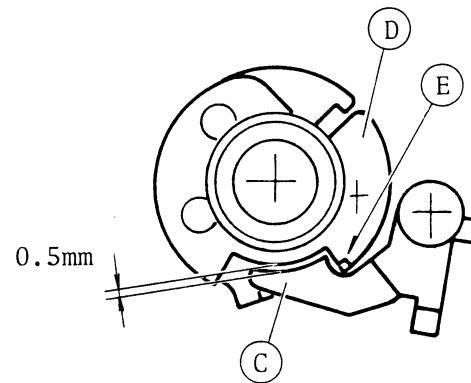

Fig. 20
- b. Further returning, when the safety arm reached to 0.5 mm distance from the bottom of the depression, the switch should be turned off. (Fig. 20, 21)